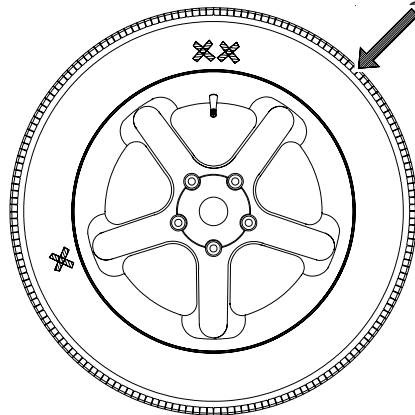

Figure 30
1. The machine displays "**VAL tOP**". Turn the wheel so the valve is at top position. (12 o'clock) and then press P button. The machine stores the valve position. See Figure 30.